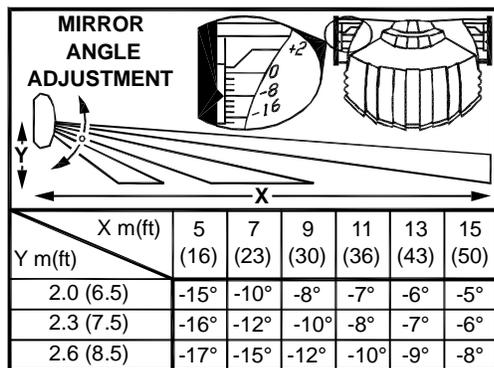

Figure 3: Mirror Alignment
For the best performance, the mirror must be adjusted vertically for the maximum desired detection range (distance) and mounting height. The angle adjustment markings are located on both sides of the mirror (see Figure 3).
- Use Figure 3 to identify the correct vertical angle based on mounting height (X), mirror type, and maximum range (Y).